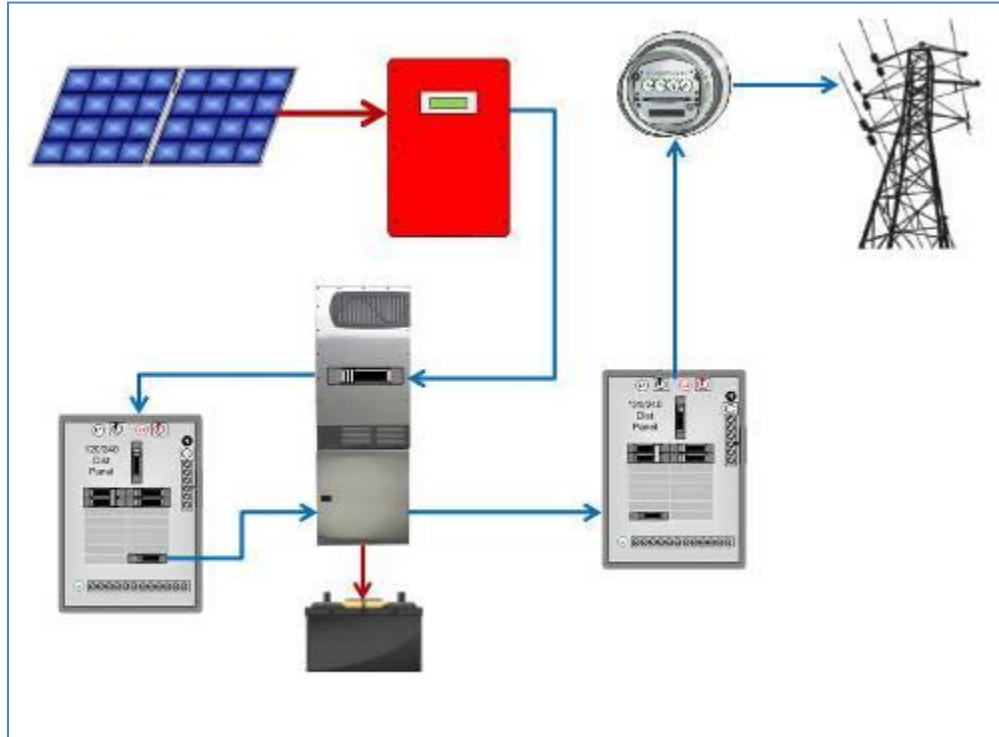

Figure 3 – Current path when grid power is present.
Adding energy storage through AC-coupling: For the owners of these more common grid-tied, grid-dependent inverters, there is a way to tie in a battery-backup inverter system using a method called *AC Coupling*. It typically requires adding a load center with circuit breakers and electrical connections for the building’s critical loads. This allows a point at which the grid-tied (GT) inverter and the battery-based (BB) inverter to “couple” and share their energy to the loads. In a normal mode of operation with grid power available, the energy from the PV array flows through the GT inverter to the critical load panel, with any excess energy flowing through the load panel to the BB inverter, and on out to the grid (see Figure 3).
When the sun comes out the next day, the system reverts to the power flow as shown in Figure 3, with any extra energy used for recharging the batteries. If no excess is available then some manual load-shedding (divesting of less critical loads to prioritize the most critical, such as lighting and refrigeration) may be necessary through the turning-off of the critical load panel connected devices until the batteries are charged. If the critical loads are absolutely essential and load shedding is not an option, then adding a generator to the backup system can satisfy the critical load demand while charging the batteries.